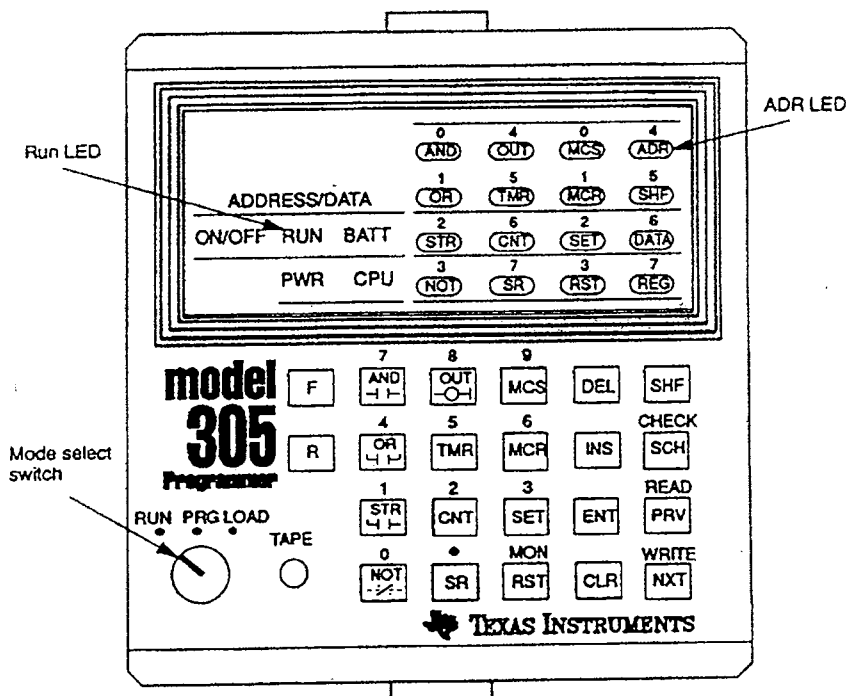

Figure 1-2 TI305 Programmer
| | Figure 1-2 TI305 Programmer..... | 2 |
6. Connect the TI305 programmer to the front of the CPU. The programmer display reads 0.0.0.0. and the ADR LED illuminates. See Figure 1-2.
- Place TI305 Programmer mode select switch in the PRG position (program mode). See Figure 1-2.